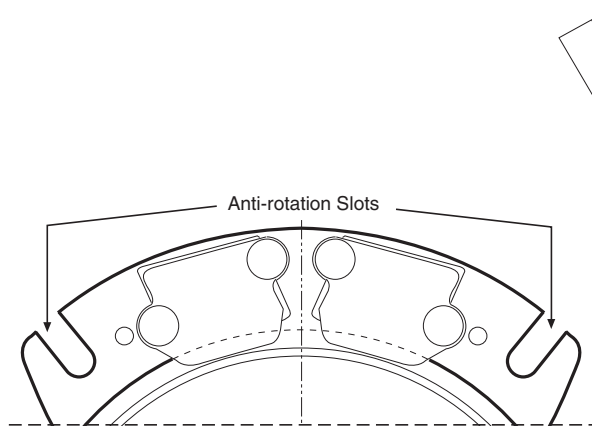

Figure 2
Anti rotation device is to keep the field and wires from rotating on the shaft. Anti rotation pin, strap or cable must not restrict the bearing in the field assembly from either axial or radial runout. See figure 2.
5. Install the new clutch making sure that the anti rotation device is engaged in the clutch. Make sure that the field has a little free play and is not bound up. See figure 2.